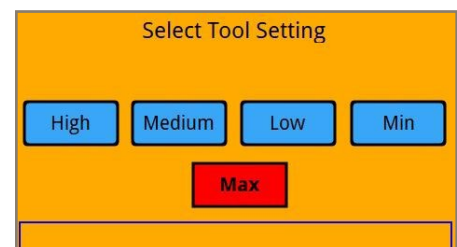

Figure 57
10. Next, use the touch screen display to select from the pump menu the option to suit the Phastite® connector to be assembled (Figure 57). Each button on the menu corresponds to the correct pump setting required to assemble each specific Phastite® connector Material, Tube O.D. and Wall Thickness. This menu is provided with each tool and is also available on page 39.